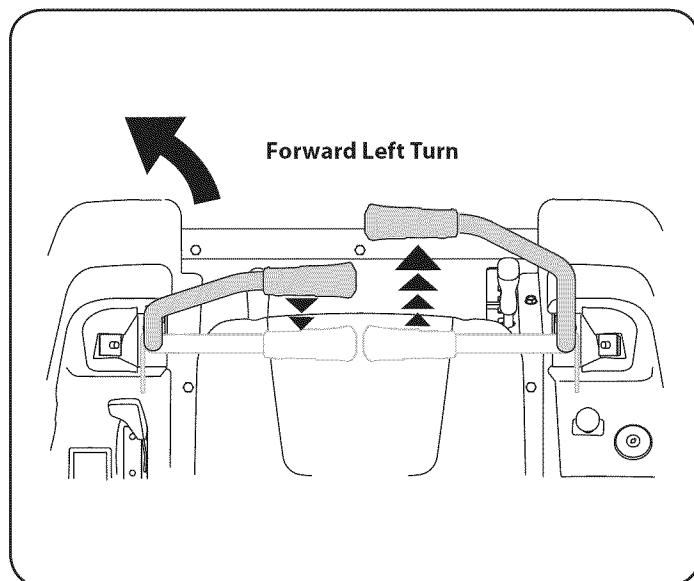

Figure 15
1. To turn to the left, move the left drive control lever rearward of the right lever. See Figure 15.